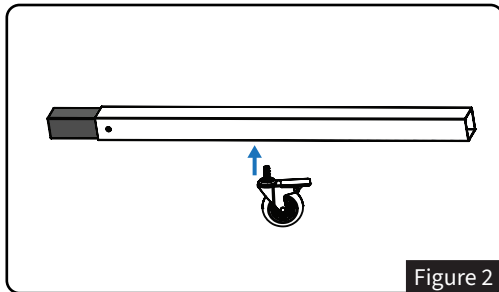

Figure 2
- Press (1) Caster (A) into the bottom of the Caster Tube (Part C). See *Figure 2*.
- Ensure all Casters (A) are fully seated.